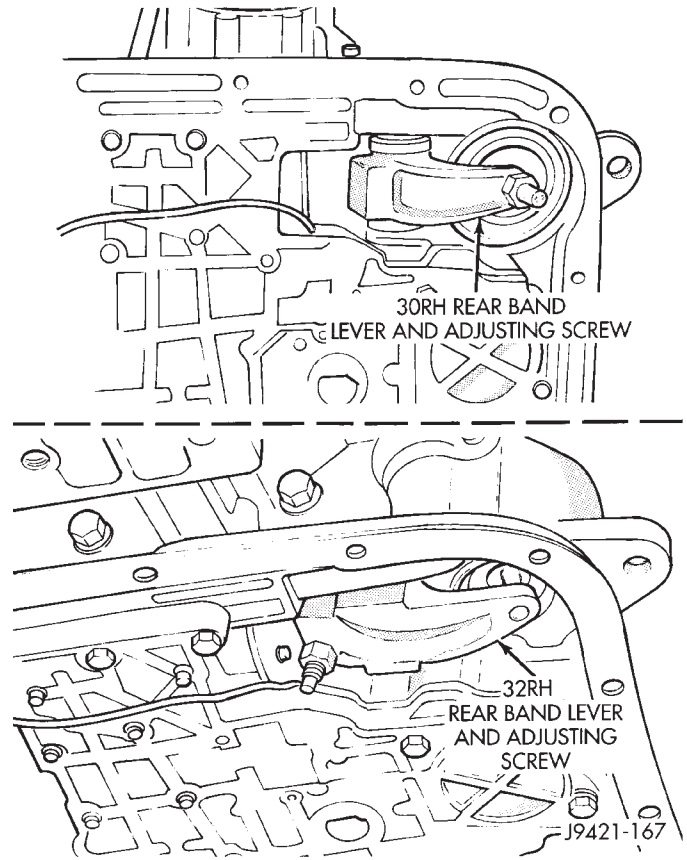

Fig. 184 Rear Band Adjustment Screw Location
- (1) Raise vehicle.
- (2) Remove transmission oil pan and drain fluid.
- (3) Loosen band adjusting screw locknut 5-6 turns. Be sure adjusting screw turns freely in lever.
- (4) Tighten adjusting screw to 5 N-m (41 in. lbs.) (Fig. 184).
- (5) Back off adjusting screw 7 turns.
- (6) Hold adjusting screw in place and tighten locknut to 34 N-m (25 ft. lbs.) torque.
- (7) Position new gasket on oil pan and install pan on transmission. Tighten pan bolts to 17 N-m (13 ft. lbs.) torque.
- (8) Lower vehicle and refill transmission with Mopar® ATF Plus 3, Type 7176, fluid.